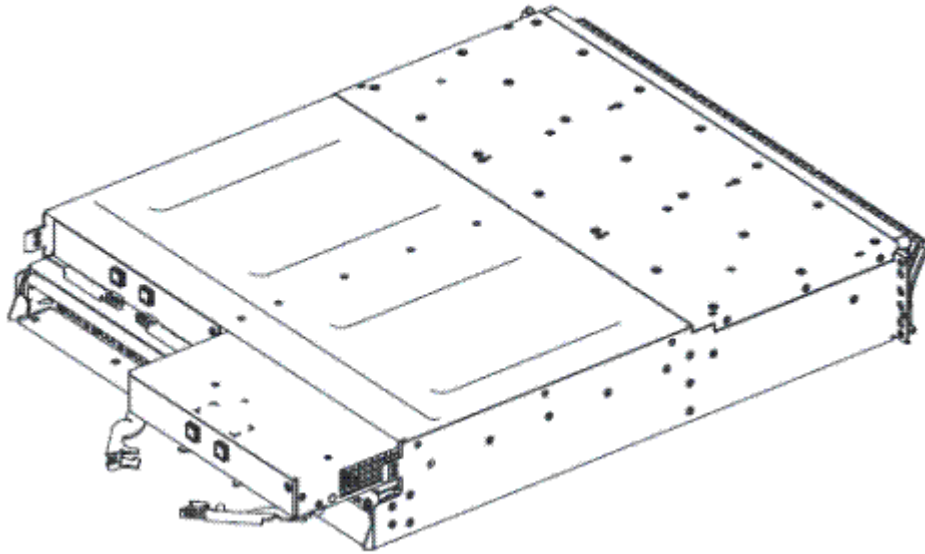

Figure 81. Removing and replacing the IBM Storage FlashSystem expansion canister
6. Open the two release levers as shown in Figure 81 on page 145.